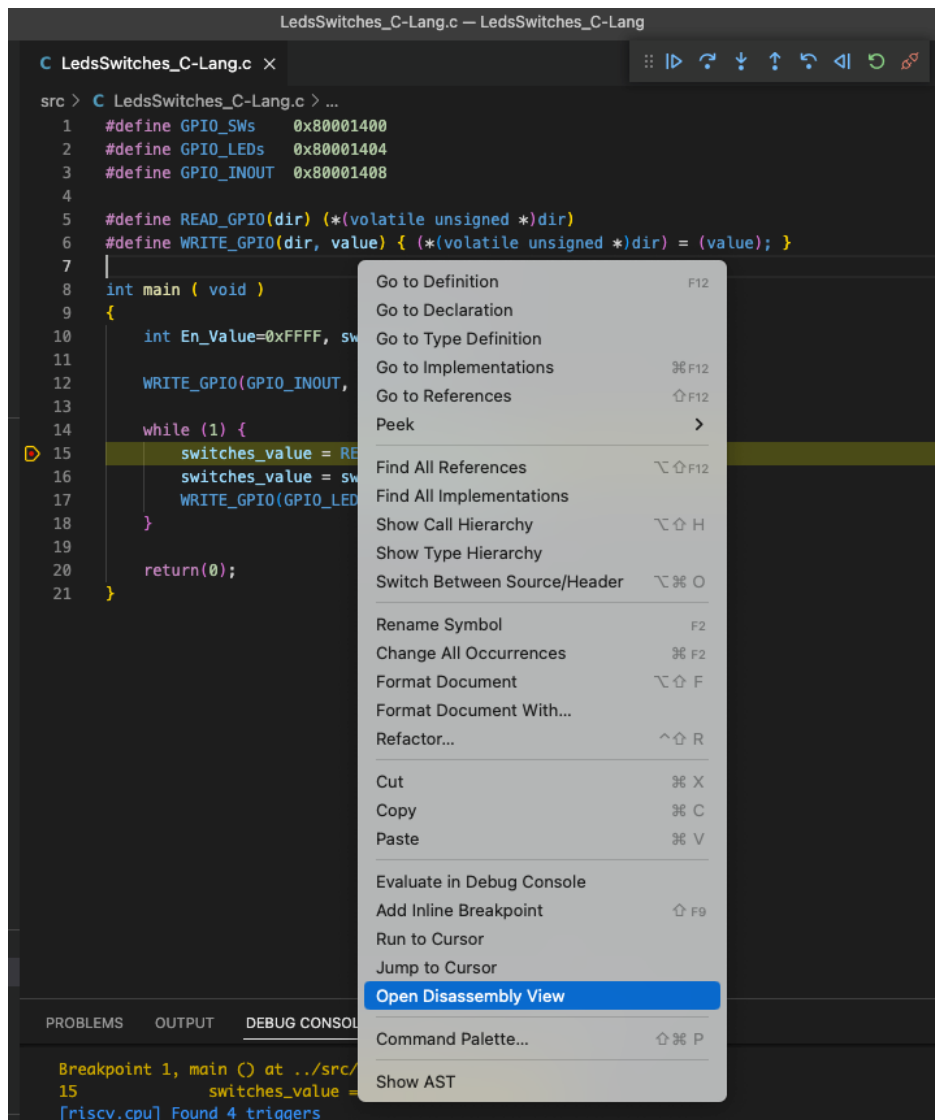

Figure 53. Switch to assembly
7. You can view the execution of the program in C as above or you can view the execution of the assembly program generated by the compiler, by right-clicking on the source file and selecting “Open Disassembly View” (Figure 53).